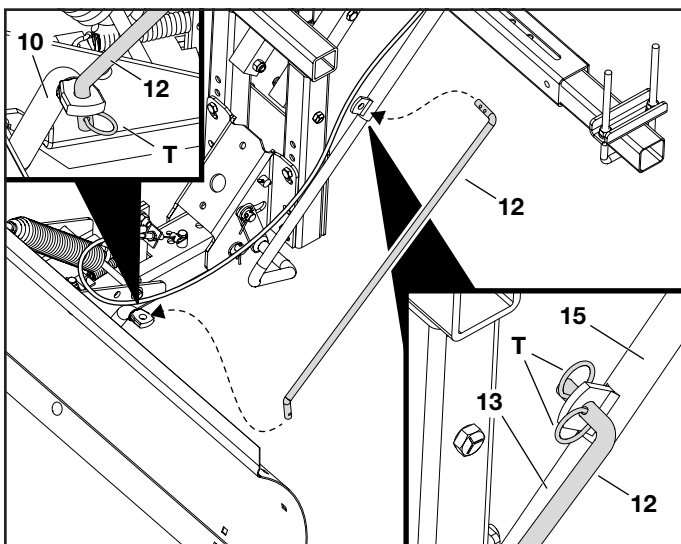

FIGURE 14
STEP 14: (SEE FIGURE 14)
- Insert the bottom end of the blade pivot rod (12) into the hole in the blade pivot shaft (10) and secure with a hair pin (T).
- Insert the top end of the blade pivot rod (12) into the hole in the lift handle tube assembly (15) and secure with two hair pins (T).